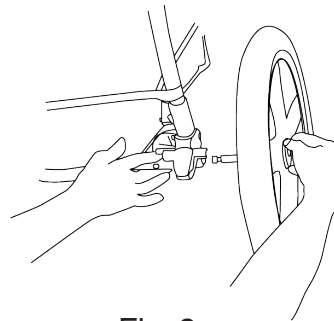

Fig. 2
6. To attach the rear wheels, lay stroller on its side. Align back wheel axle to the stroller's rear wheel axle housing (Fig. 2). Push the back wheel axle inward until you hear a "click" (Fig. 2A). Once in a fully locked position, check to make sure back wheel is in a fully locked position by pulling outward. Repeat steps for other side back wheel. **NEVER** use stroller if any wheels are not in a fully locked position. Please contact our customer service department immediately at 1-800-377-3777 for assistance.